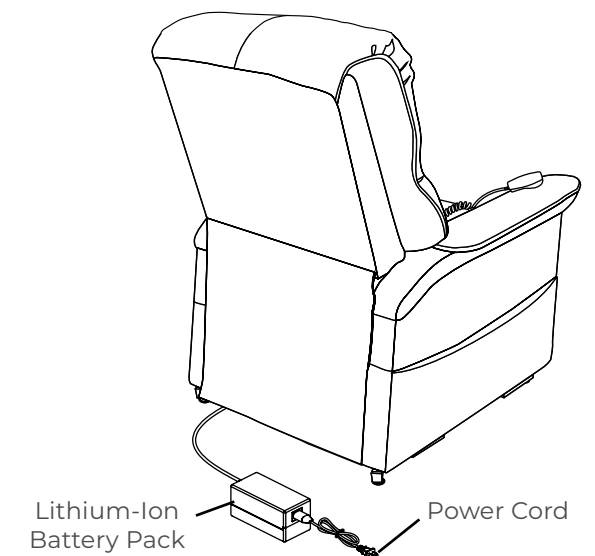
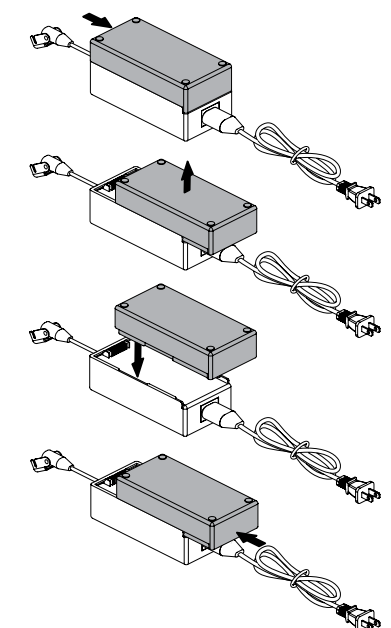

Figure 4.2.2 Lift Chair Battery Back Up Location
Figure 4.2.3 Lithium-ion Battery Replacement
**Follow these steps to replace the lithium-ion battery pack batteries (See Figure 4.2.2 and Figure 4.2.3):**
5. Place the new lithium-ion battery on top of the external transformer with the securement grooves toward the external transformer. (Figure 4.2.3)